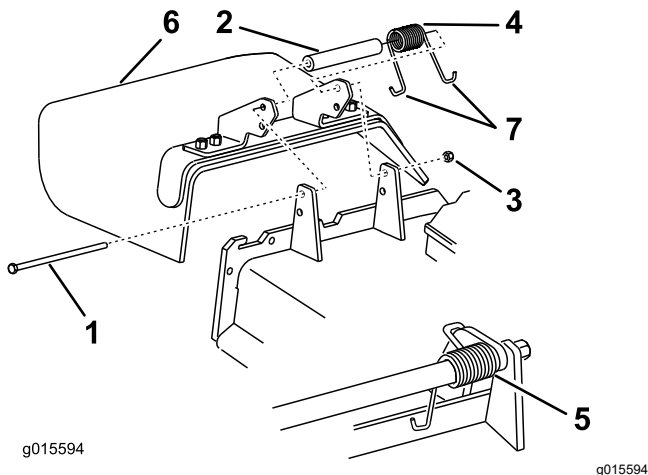

Figure 98
1. Remove the locknut, bolt, spring, and spacer holding the deflector to the pivot brackets (Figure 98).
2. Remove the damaged or worn grass deflector (Figure 98).
**Note:** Make sure that 1 J-hook end of the spring is installed behind the deck edge before installing the bolt as shown in Figure 98.
6. Place 1 J-hook end of the spring around the grass deflector (Figure 98).